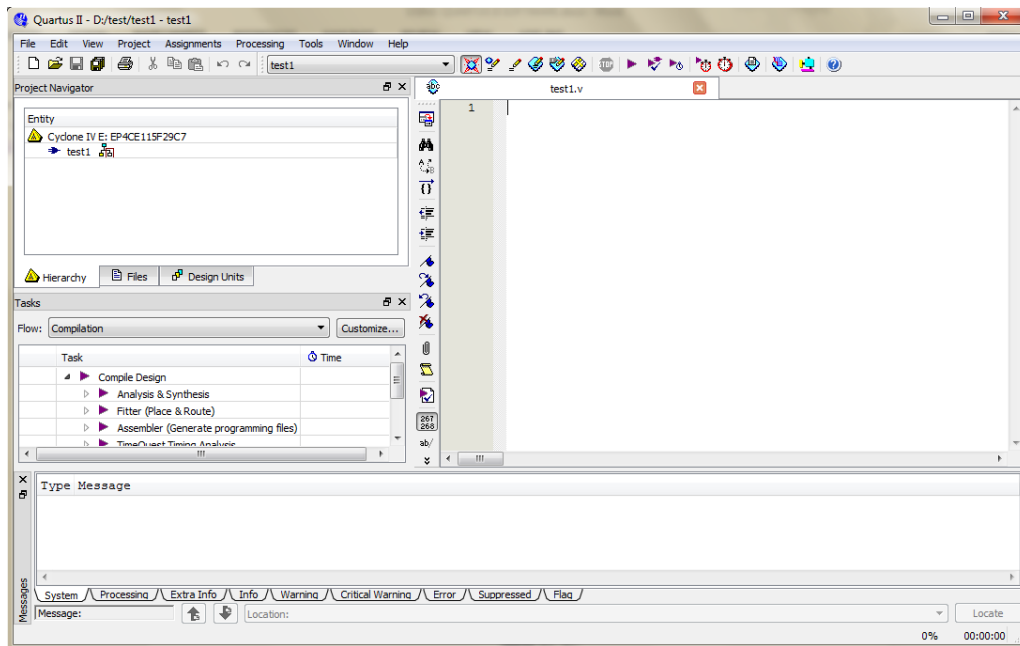

Figure 16. Text Editor
- Write verilog code which belongs to the two-way light control circuit in Figure 16;